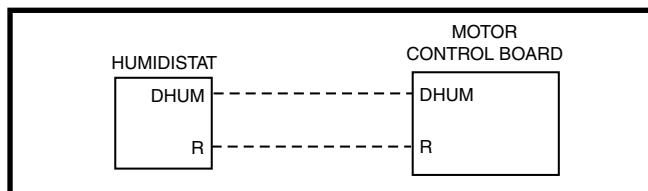

Figure 25. DEHUM Wiring Configuration with Humidistat
- If the room thermostat incorporates a humidity sensor and **DEHUM** output, connect the **DEHUM** on the thermostat to the **DEHUM** terminal on the motor control board. See Figure 25.